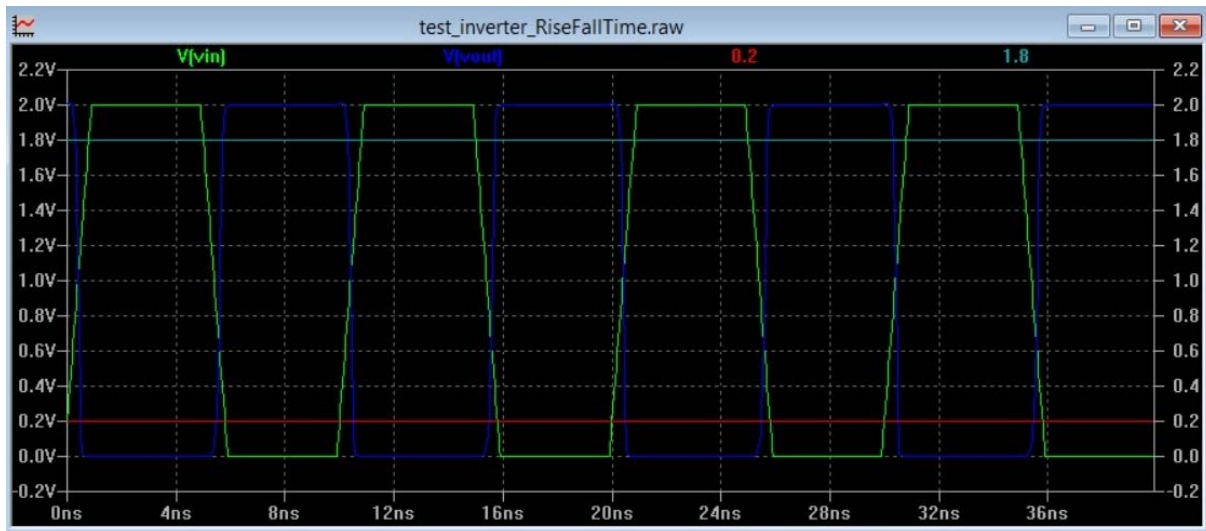

Figure 32. Waveforms with 10% x Vout and 90% x Vout
- C. Click **Plot Setting** → **Add Trace**, add **1.8V** which equals to 90% x Vout and then click **OK**. Now the waveform window looks like Figure 32.